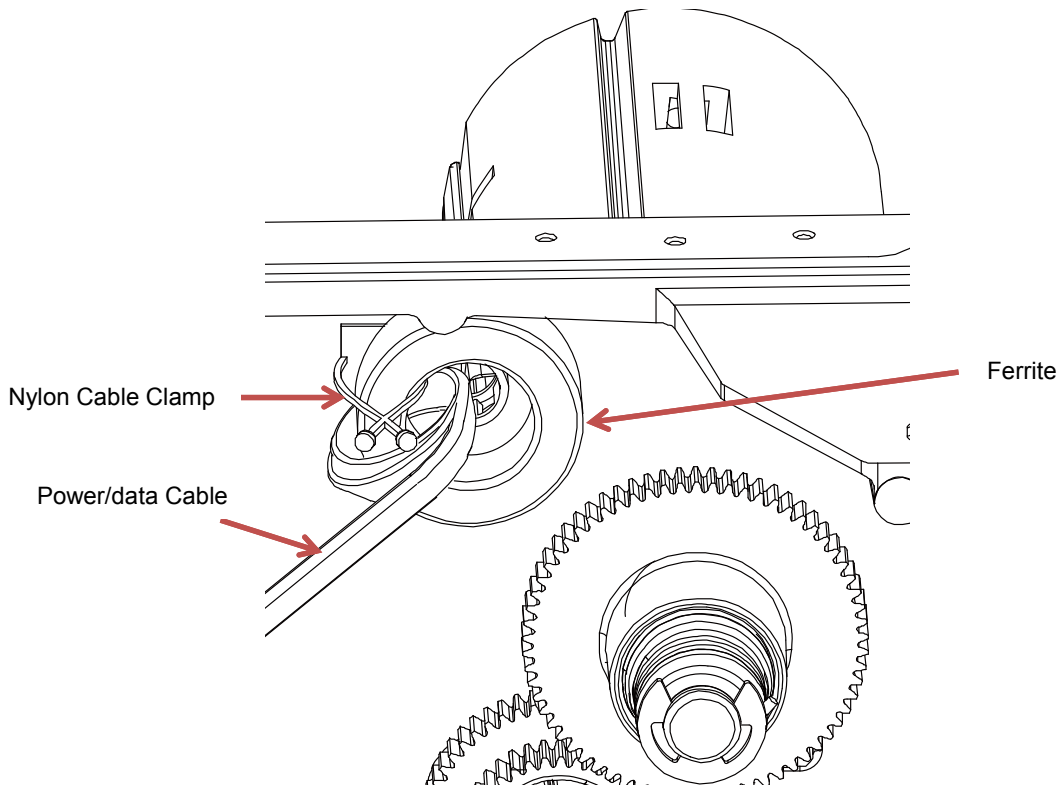

Figure 4 Secure Ferrite to Nylon Cable (T6)
8. Secure the ferrite to the Nylon cable clamp as shown in Figure 4 and route the P10 connector and power/data cable down towards the bottom of the controller PCBA.